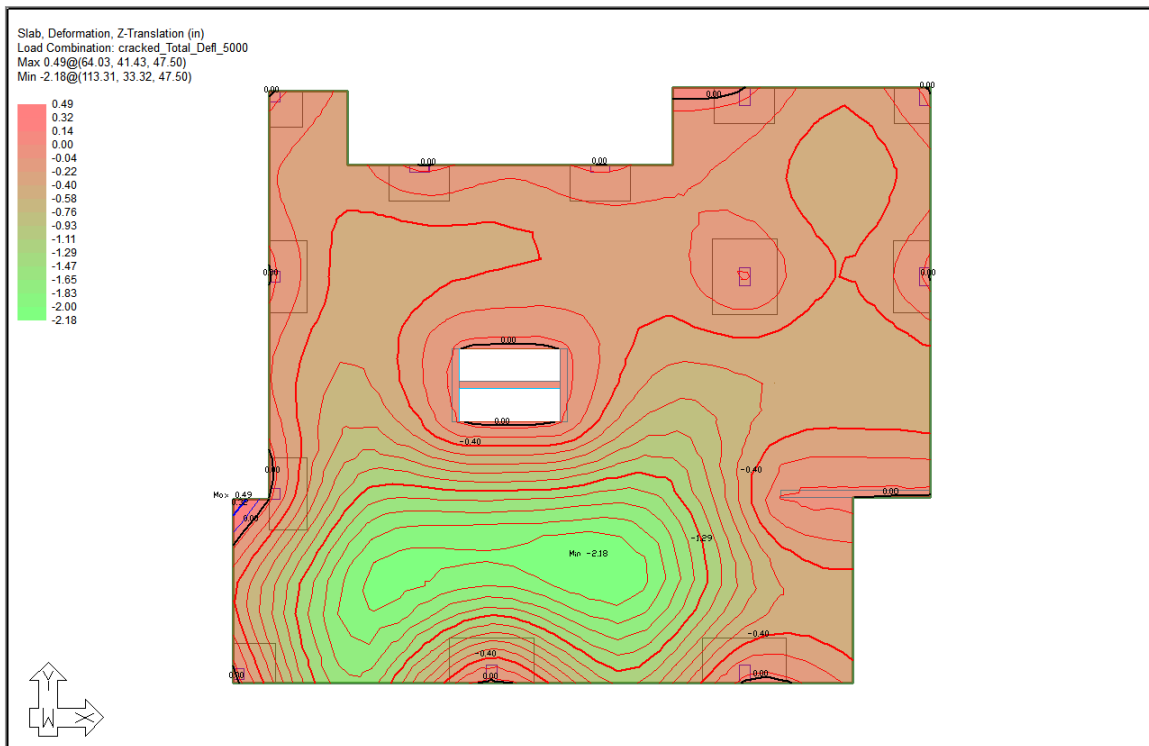

FIGURE 10-20
- In the *Analysis* tab tree, navigate to *Slabs* → *Deformation* → *Z-Translation* and check the box next to **Z-translation**. You should now see the deflection contour as shown in **FIGURE 10-20**.